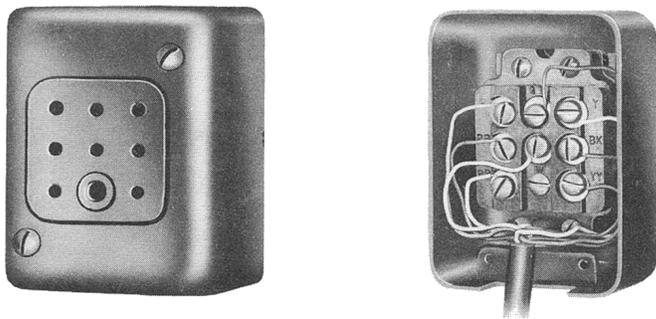

Fig. 10 — 392A Jack
**2.10** The 392A jack (Fig. 10) is an 8-contact, nonflush-type jack intended for baseboard mounting. It consists of a terminal block and metal cover. Mounting hardware is not furnished.